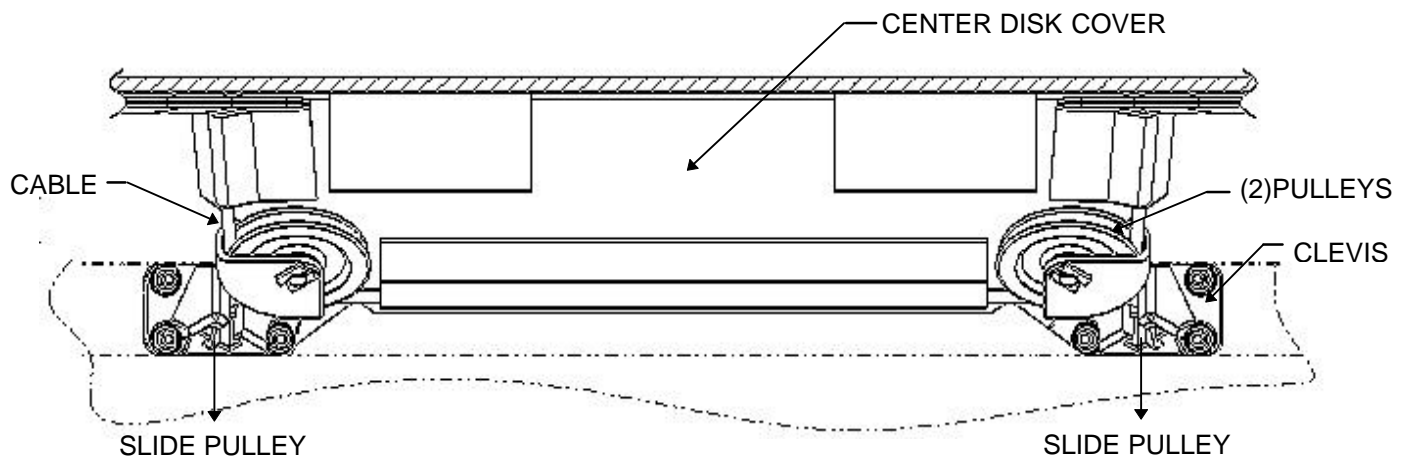

Figure 3. Pulley, Cable, and Clevis - View Looking From Center Of Center Disk
3. Remove pulley from Clevis by pushing towards ACBM ring and sliding from Clevis. See Figure 3.